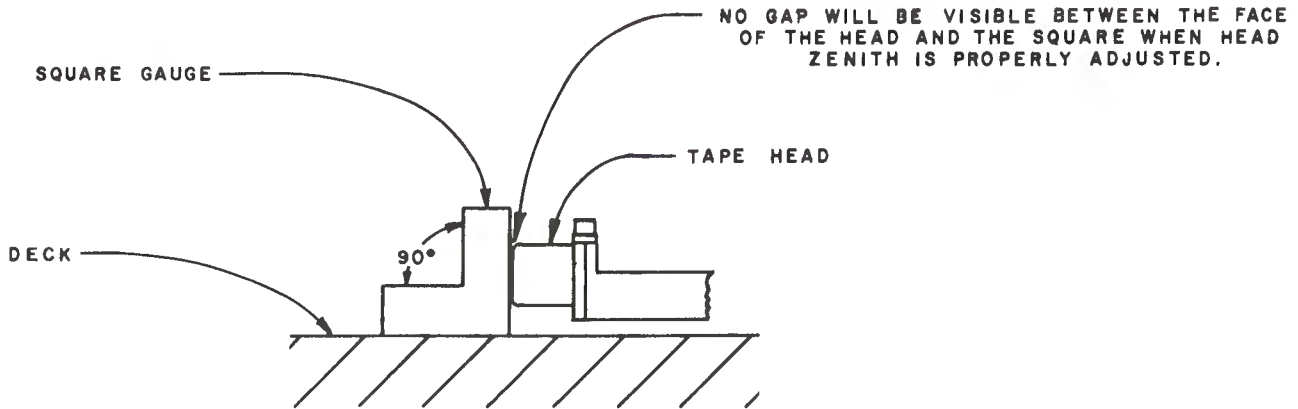

Figure 3-13
3. Coarse Zenith: Adjust the Rear Height Set Screw until the face of the head is perpendicular with the surface of the deck. Position the Tape Height Gauge, or any gauge known to be square, on the deck surface and move it against the face of the head as shown in Figure 3-13. The gauge must be demagnetized before making adjustments. Be careful to avoid scratching the face of the head. When the head is perpendicular, the face of the head and the "square" will be flush.